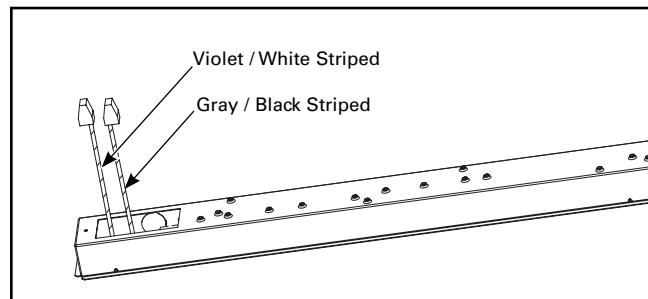

Figure 3.
- 2b. For a fixture with an integrated sensor, locate two control wires with push nuts (violet / white stripe, gray / black stripe) and skip to step 4. (Figure 3.)